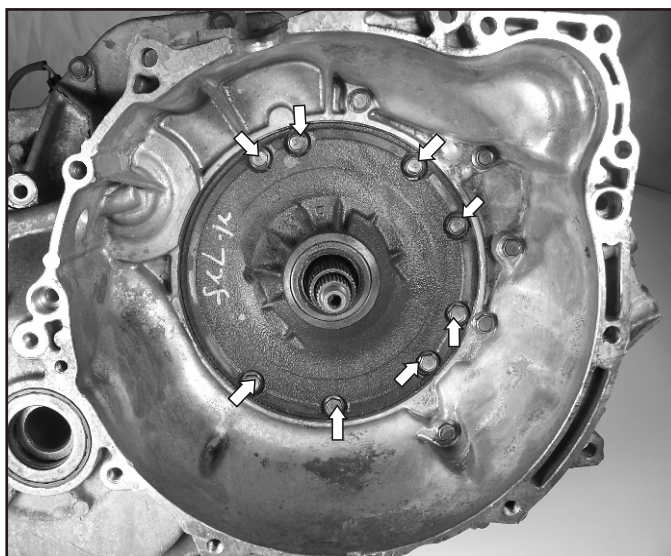

Figure 292
- 216. Install the pump assembly into the case and gently tap it into the case. Once the pump is seated into the case, install the eight pump to case retaining bolts and torque to 15-22ft.lb. *Note: The bolt lengths are 28mm long. See Figure 292.*